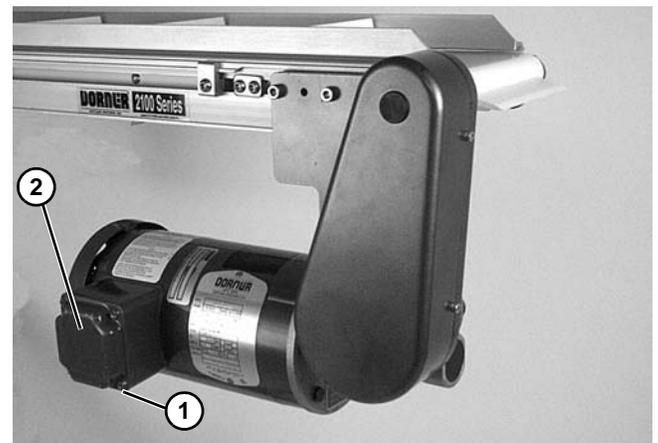

Figure 38
1. Loosen terminal box screws (**Figure 38, item 1**) and remove cover (**Figure 38, item 2**).